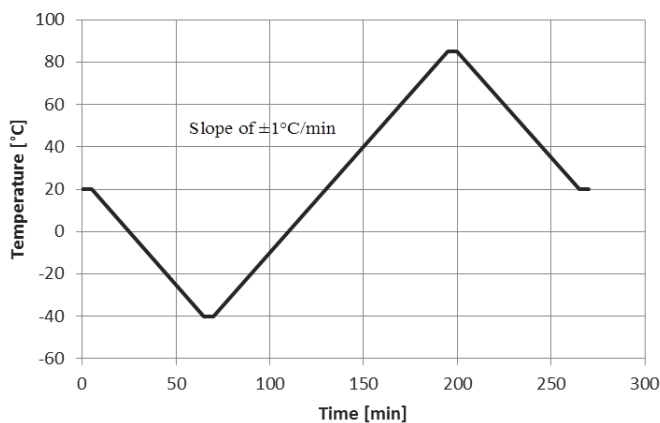

Figure 26: Recommended Temperature profile for calibration
2. Place the sensor on a rate table in a thermal chamber and implement temperature profile according to Figure 26¹